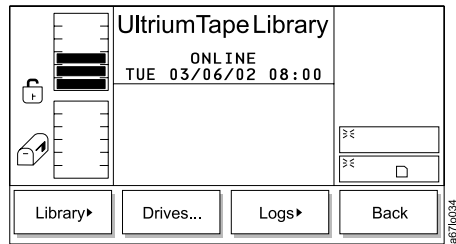

Figure 83. Status Menu
1. From the Main Menu's initial screen, press the button below the **Status** softkey. The Status Menu displays (see Figure 83 on page 101).